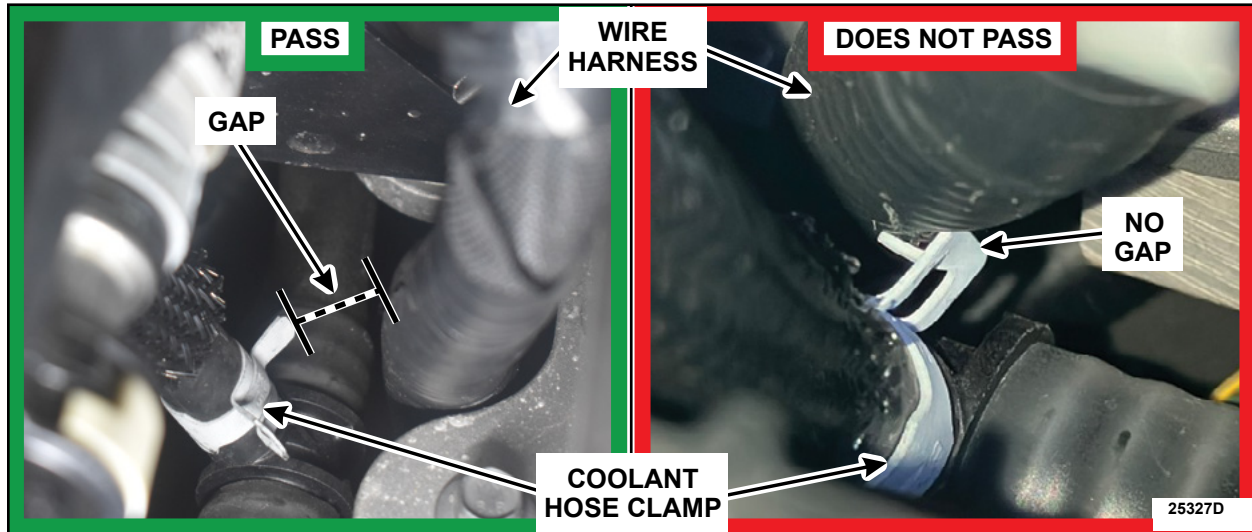

FIGURE 4
4. Visually check the gap between the coolant line clamp and the wire harness. See Figure 4.